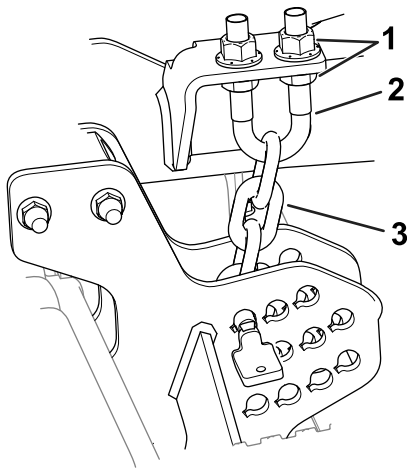

Figure 7
7. Loosen the lower jam nuts on the height-of-cut chain U-bolt (Figure 7).
8. Adjust the nuts (Figure 7) to raise or lower the rear of the cutting unit so that the tips of the rear blades are 6 to 10 mm (1/4 to 3/8 inch) higher than the front tips.